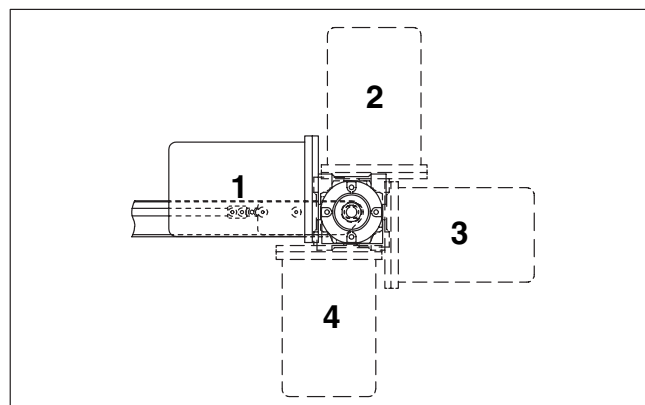

Figure 3
<p>Gearmotor may be operated in positions 1, 2, 3 or 4 (Figure 3).</p>
2. If required, change gearmotor position by removing four (4) screws (Figure 4, item I). Rotate gearmotor to other position (Figure 3) and replace screws (I). Tighten to 100 in-lb (12 N-m).